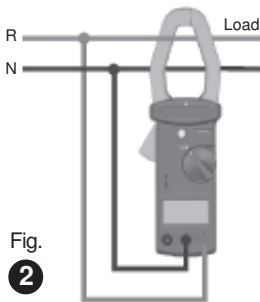

Fig. 2
1. Set the rotary switch to the " KW/KVA " position (refer to figure 2).